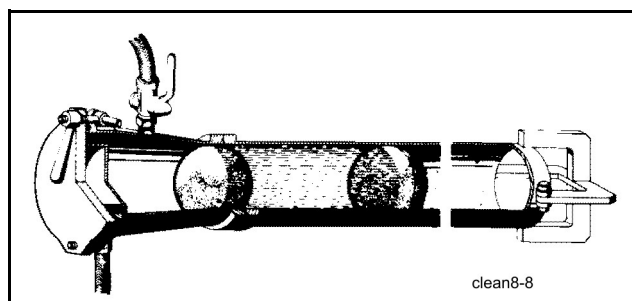

Fig. 113 Cleaning head and trap basket
- Cleaning head and trap basket (**Fig. 113**).